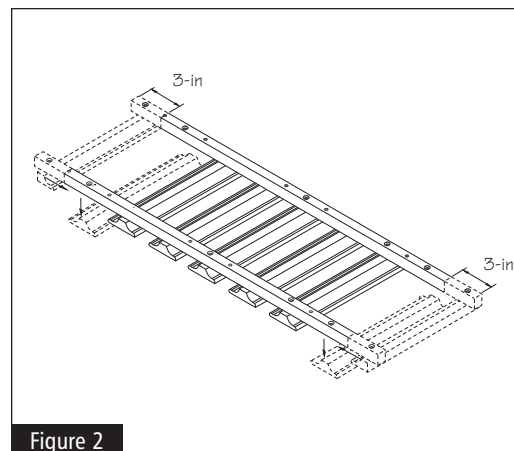

Figure 2
- 1** Place Stem Glass Holder unit on flat surface with the mounting strips facing up. Please note that the unit has a left (4-holes) and a right (5-holes). Using the screwdriver, remove the first two (2) rails on the left and the right, and replace the first (smaller) rail where the second rails were. With Pencil, mark each end of both mounting strips. See Figure 2.